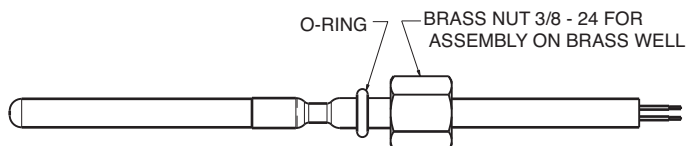

**Fig. 44 — 5K Thermistor (Sensor 00PPG000008105A, Connector: HY06AM016)**
**Cooler Leaving Water Sensor** — On all sizes, this thermistor is installed in a friction fit well in the leaving water nozzle of the cooler. See Fig. 44 and 45.